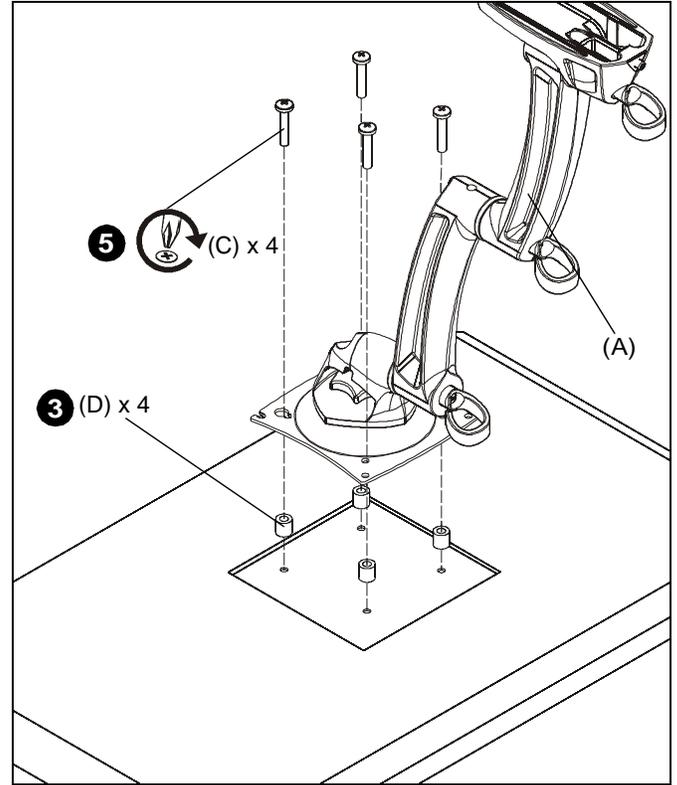

Figure 7
3. Place the four spacers (D) over each of the mount holes on the back of the display. (See Figure 7)
4. Pick up and orient the mount (A) so that the mounting holes are aligned with the holes in the spacers; rotate the bracket as required. (See Figure 7)
5. Using Phillips screwdriver, install four M4x25mm screws (C) through the mounting holes, through the spacers and into the display. (See Figure 7)